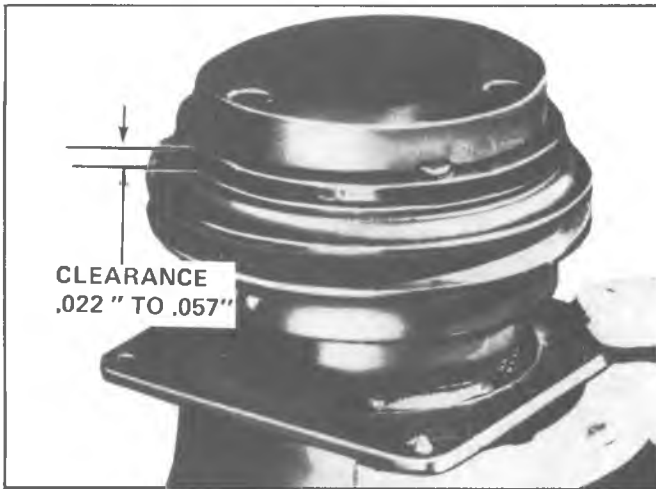

Fig. 9--Checking Air Gap
6. Use Thin-Wall Socket J-9399 and Clutch Hub Holder J-25030 or J-9403 to install a new shaft locknut **with shoulder or circular projection on the locknut facing towards retainer ring**. Tighten the nut to 14-26 lb. ft. torque. Air gap between the frictional faces should now be .022" to .057" (Fig. 9). If not, check for mispositioned key or shaft.